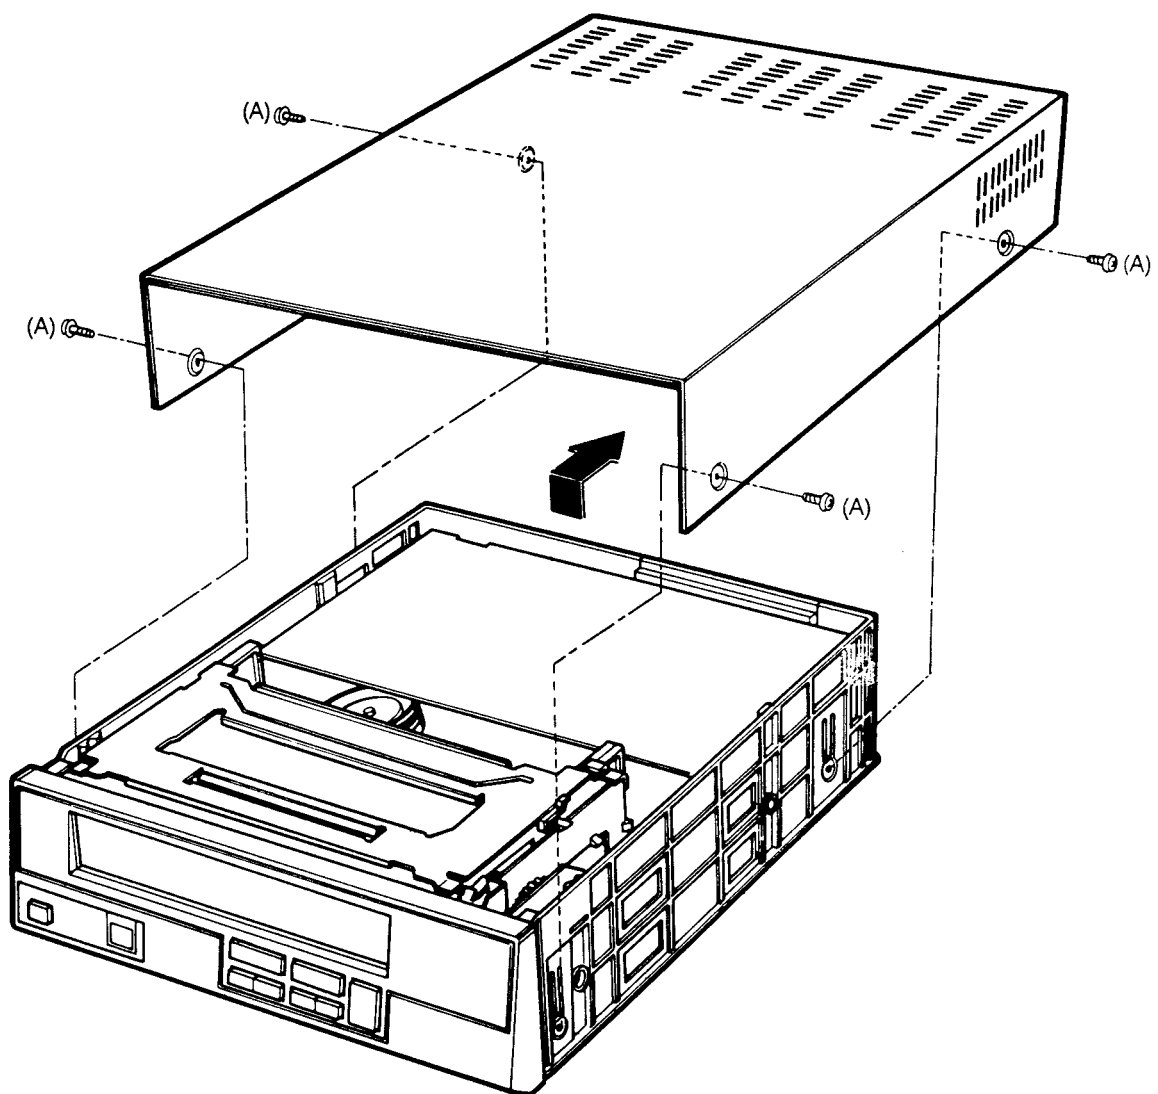

Fig. 2-1-1
2-1-1 Top Case(Fig. 2-1-1)
- A. Remove four screws (A). (See Fig. 2-1-1)
- A. Remove the Top Cover. (See Fig. 2-1-1)